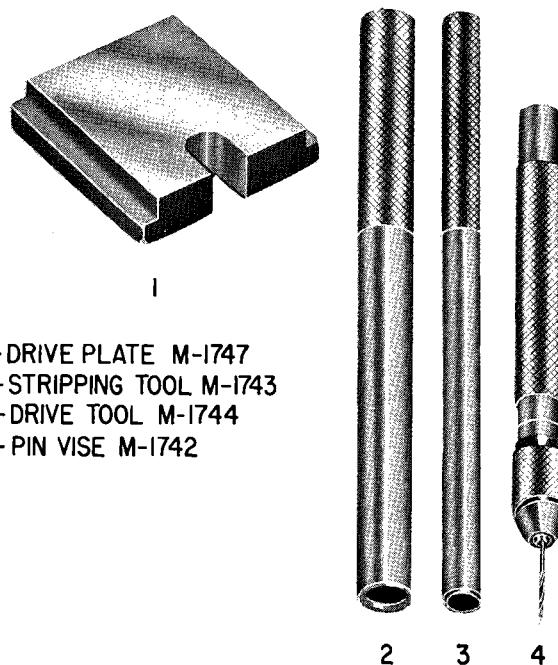

Figure 4-6. Tooling, Slick Harness
4-17. Cut the individual cable to the required length shown in Table 4-1. Make a mark $7/8"$ from the magneto end and 1" from the spark plug end. Flare out the copper shielding and insert the stripping tool (figure 4-6) beyond the mark. Do not allow the shielding to fold under while inserting tool. With a sharp knife, and using a rolling motion while cutting, cut and remove the copper shielding at the marks. Remove the stripping tool.
4-18. At both ends cut the exposed insulation back from the end $1/16$ inch. Do not pull insulation from wire, remove by turning clockwise. Trim the coiled conductor, conductor should protrude approximately two coils. Using the pin vise (figure 4-6) drill and remove silicone rubber from the inside of the coiled conductor, this will facilitate installation of the electrode screw in a later step.
4-19. SPARK PLUG END. Install hex ferrule (8) over lead with flange end toward end of wire. After assembly of this ferrule, bend and rotate the silicone insulation to flare out the copper shielding. Install drive ferrule (9) over insulation and under shielding to within $1/16$ inch of flange of hex ferrule. Slide hex ferrule over drive ferrule until tight. Mount drive plate (figure 4-6) in a bench vise. Set hex ferrule in slot of drive plate and, using the drive tool (figure 4-6) drive the drive ferrule flush against the hex ferrule. Install spark plug nut (7) on cable with threaded end toward ferrules.
4-21. BOTH ENDS. Clamp threaded end of electrode screw (3 and 10) in pin vise (figure 4-6) and assemble the screw into the center of the coiled conductor. Turn counter-clockwise and push the screw until the tapered pin portion is flush with the insulation. Place sleeve (2 and 11) over insulation and turn spring (1 and 12) onto electrode screw until the end of the screw is flush with the first large coil of the spring.